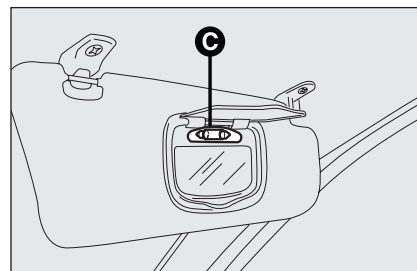

fig. 39
- replace the bulb **C-fig. 39** releasing it from the side contacts making sure that the new bulb is correctly clamped between the contacts.